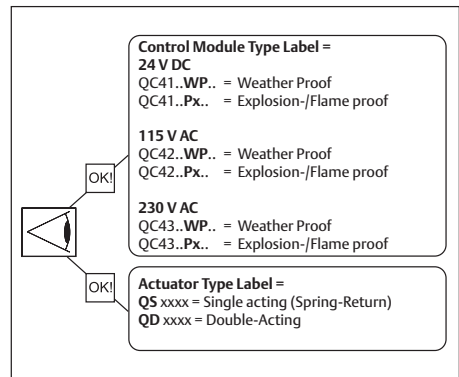

Fig. 2.2 Identification
- \* Check the module label for the right execution (see Figure 2.2)
- \* Check the type of actuator: single or double-acting (see Figure 2.2).